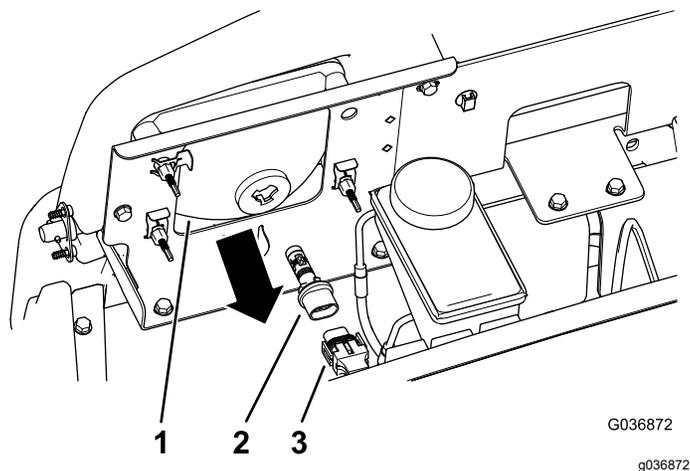

Figure 52
3. Disconnect the electrical connector for the harness from the connector of the lamp assembly at the back of the headlight housing (Figure 52).
4. Rotate the lamp assembly 1/4 turn counterclockwise and moving it rearward, out of the headlight housing (Figure 52).
5. Insert the new lamp assembly and headlight housing and align the tabs in the lamp assembly with the slots in the headlight housing (Figure 52).
6. Secure lamp assembly by turning it 1/4 turn clockwise (Figure 52).
7. Connect the electrical connector for the harness to the connector of the new lamp assembly (Figure 52).